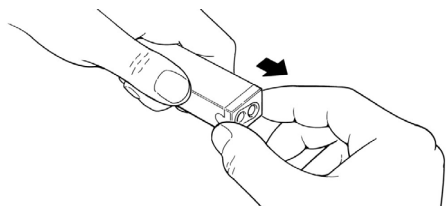

Fig. 2
- 3 Open the RC2 enclosure and remove the "cable holding cap" as shown in figure 2